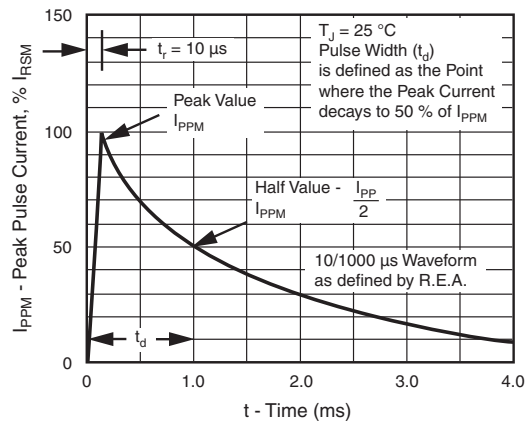
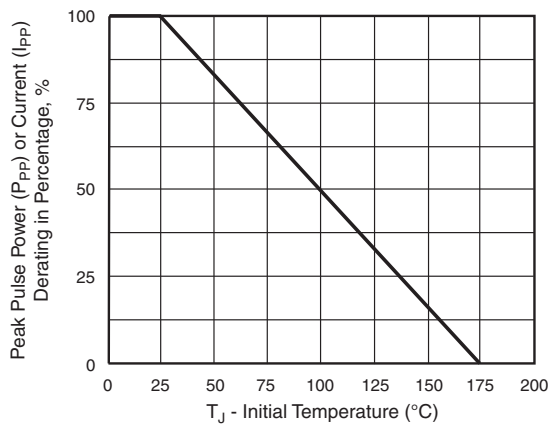

Fig. 3 - Pulse Waveform
Fig. 2 - Pulse Power or Current vs. Initial Junction Temperature
- (1) Non-repetitive current pulse, per fig. 3 and derated above  $T_A = 25$  °C per fig. 2
- (1) Pulse test: tp ≤ 50 ms
- (2) Surge current waveform per fig. 3 and derate per fig. 2
- (3) For bi-directional types with VWM of 10 V and less the ID limit is doubled
- (4) All terms and symbols are consistent with ANSI/IEEE CA62.35
- (5) Underwriters laboratory recognition for the classification of protectors (QVGQ2) under the UL standard for safety 497B and file number E136766 for both uni-directional and bi-directional devices